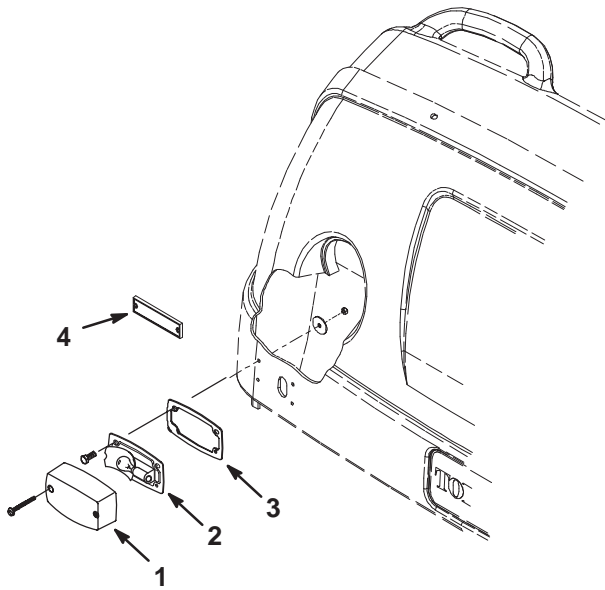

Figure 10
- Remove 2 screws that secure the turn signal lens to its backing plate (Fig. 10).
- Mount the backing plate, gasket, and ring terminal wire (ground wire) to the hood with (4) #10—24 x 1/2" lg. machine screws, washers and nuts as shown in Figure 10.
- Remove the backing from the reflector and affix it to the hood, between the turn signal and the headlight (Fig. 10).